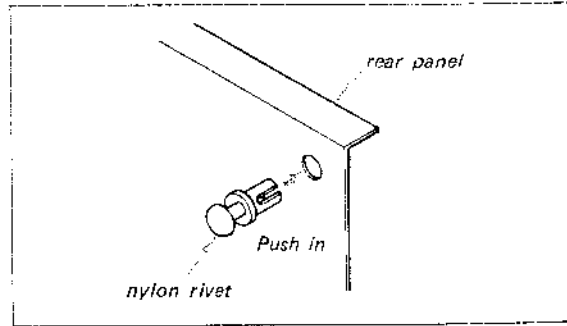

Fig. 2-15. Nylon rivet installation
3. To reinstall the rivet, insert the flared part into the opening first, and then push the head as far as it goes as shown in Fig. 2-15.